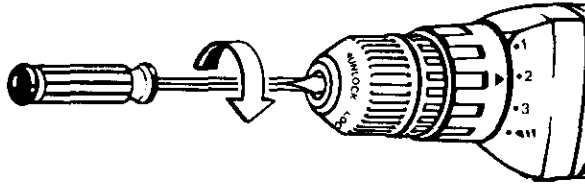

Fig. 13
- Open chuck jaws and remove hex key wrench. Remove the chuck screw by turning it in a clockwise direction. *See Figure 13.* **Note:** The screw has left hand threads.